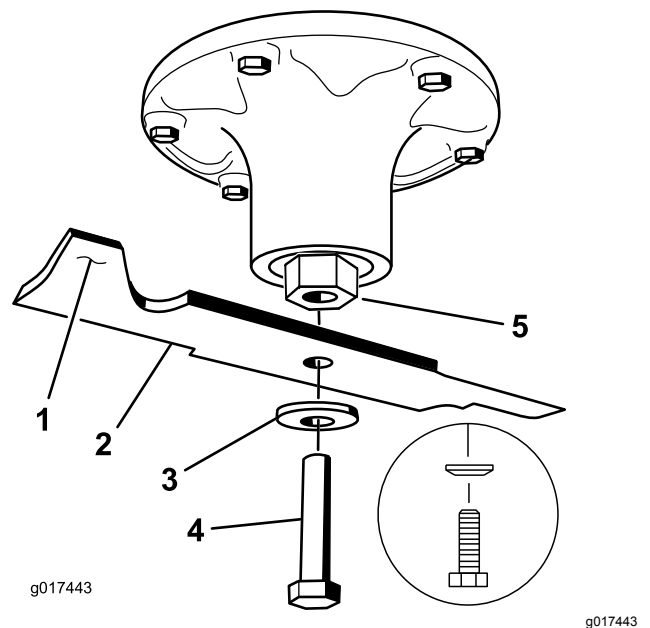

Figure 109
2. Remove the left and center blade bolt, curved washer, and blade from the spindle shaft (Figure 109).
1. Install the left and center blades, curved washers, and blade bolts to the spindle shafts (Figure 109 and Figure 110).
Note: Ensure the curved-washer cone is installed toward the bolt head (Figure 109).
2. Install the right blade, curved washer, and blade bolt (left-hand threaded bolt) to the spindle shaft (Figure 109 and Figure 110).